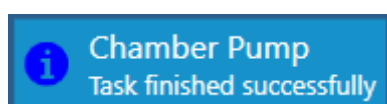

Figure 4-4 Chamber pump finished
- 20 Wait until the chamber pumps down to its base pressure. The Status panel returns to normal and a **Task finished successfully** panel displays for a short time at the bottom right of the page, see Figure 4-4.